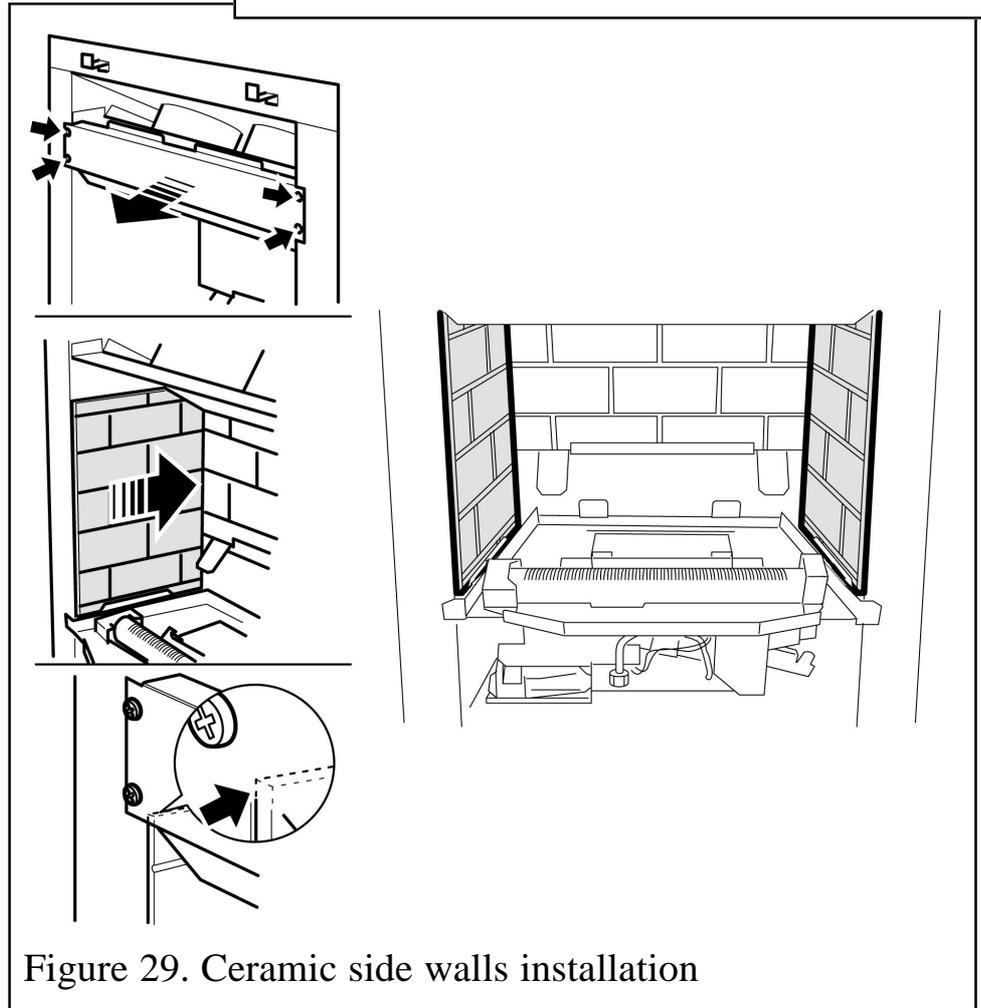

Figure 29. Ceramic side walls installation
2. Remove four screws from the spillage plate sides (See figure 29).
between the side walls and the rear wall should hold the side walls in position (See figure 29)